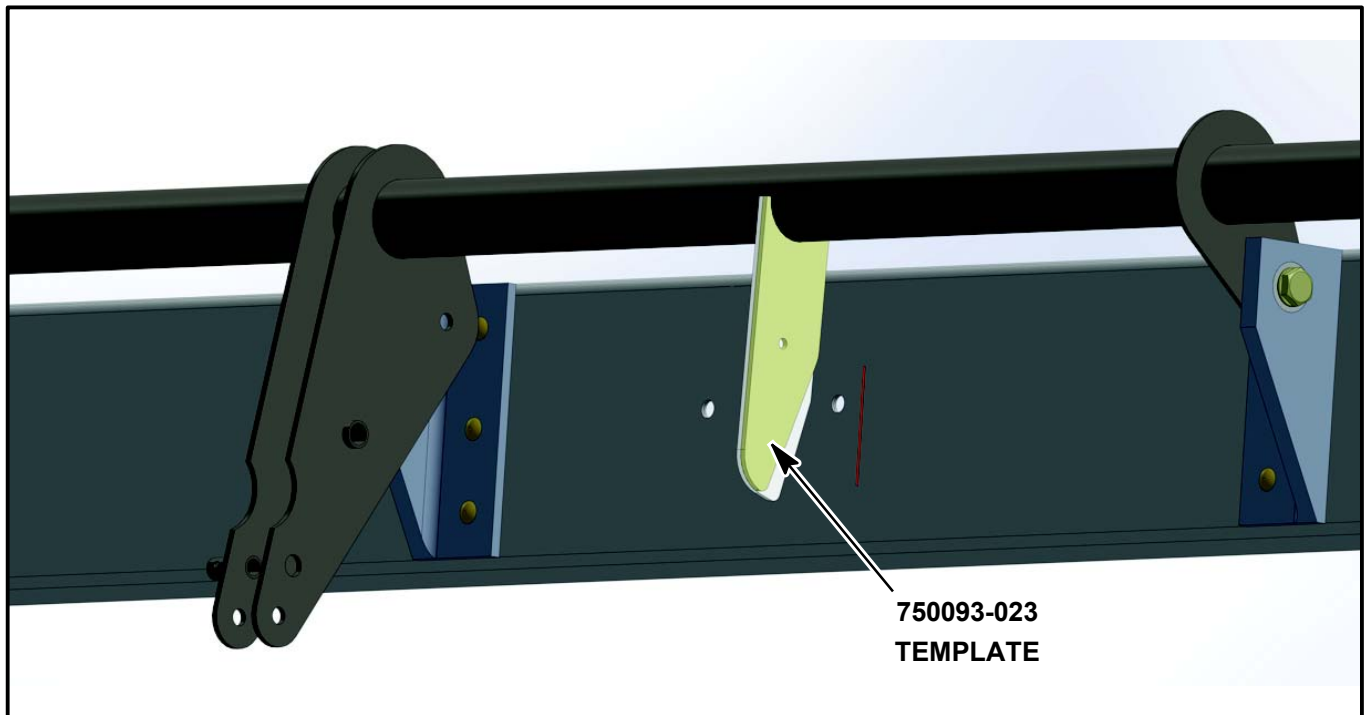

Figure SIM20-142-09 - POSITION 750093-023 TEMPLATE TO FLAP ACTUATOR ARM
- 1.11. Slide the template p/n 750093-023 up against the actuator arm. (Refer to Figures SIM20-142-09.)